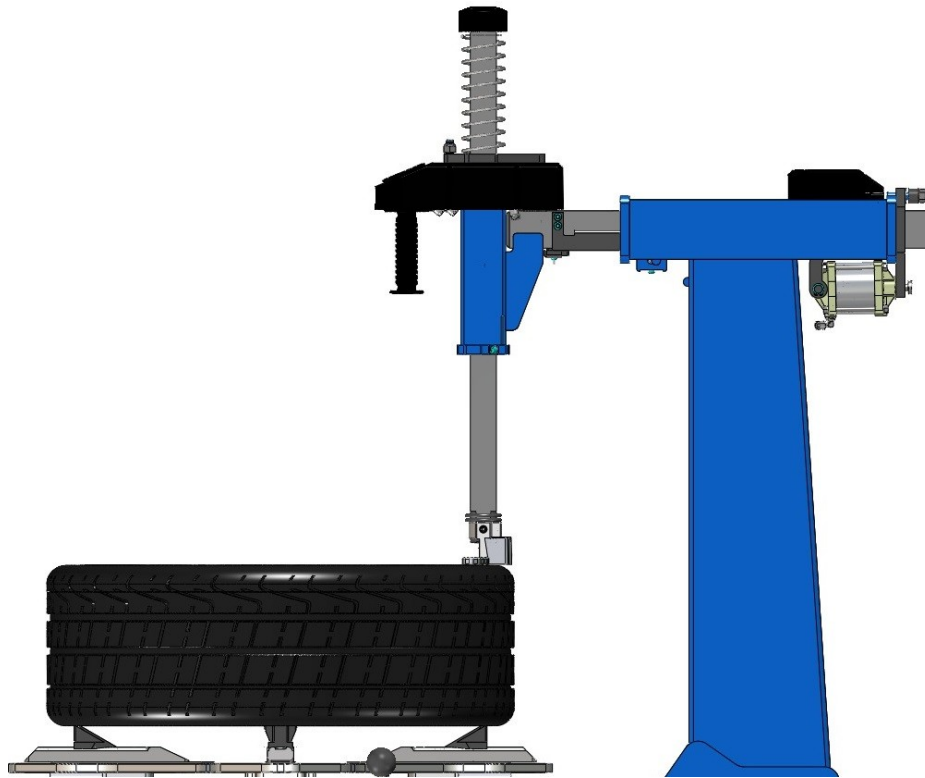

Fig. 10. Working head adjustment.
- Moving the slider to the appropriate distance and pressing the vertical slider top make the working head rest on the rim edge, as shown in Fig.10.
- By extending the slider to the appropriate distance and pressing the top of the vertical slider make the working head rest on the rim edge, as shown in Fig.10.